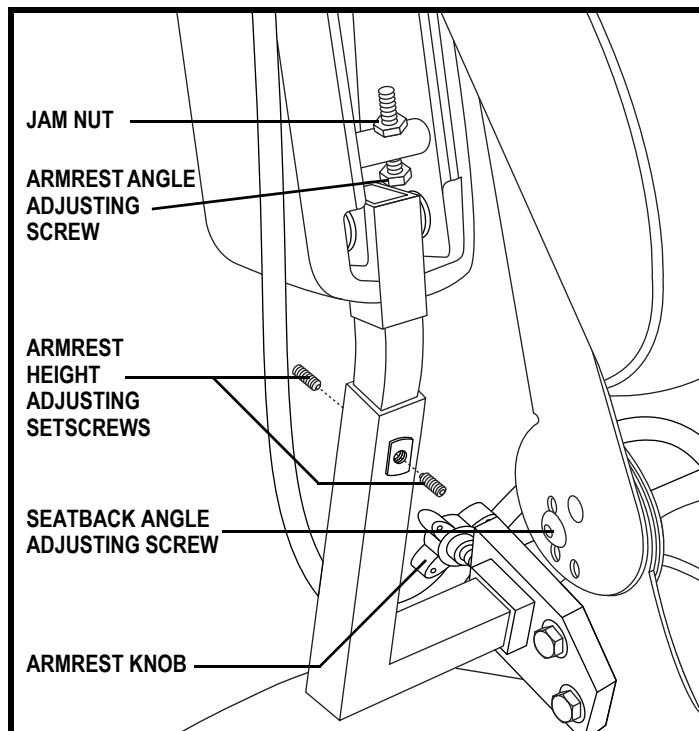

Figure 14. Seatback/Armrest Adjustment
1. Remove the adjusting screws from each seat hinge. **See figure 14.**
1. Locate the two armrest knobs on each side of the armrest receiver bracket. **See figure 14.**
1. Lift the armrest straight up so that it is perpendicular to the floor. **See figure 14.**
1. Loosen the two setscrews located on the armrest receiver. **See figure 14.**